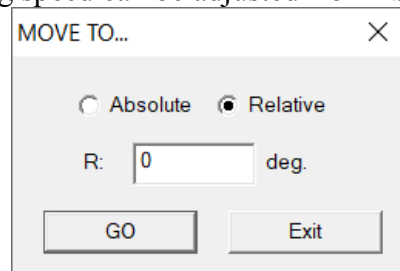

Fig. 1.7.37
1. Click “MOVE TO...” button and input the degree value in the dialog box like Fig.1.7.37 and click “GO,” the rotary axis will rotate to that specific angle. The rotating speed can be adjusted from “Speed” parameter.